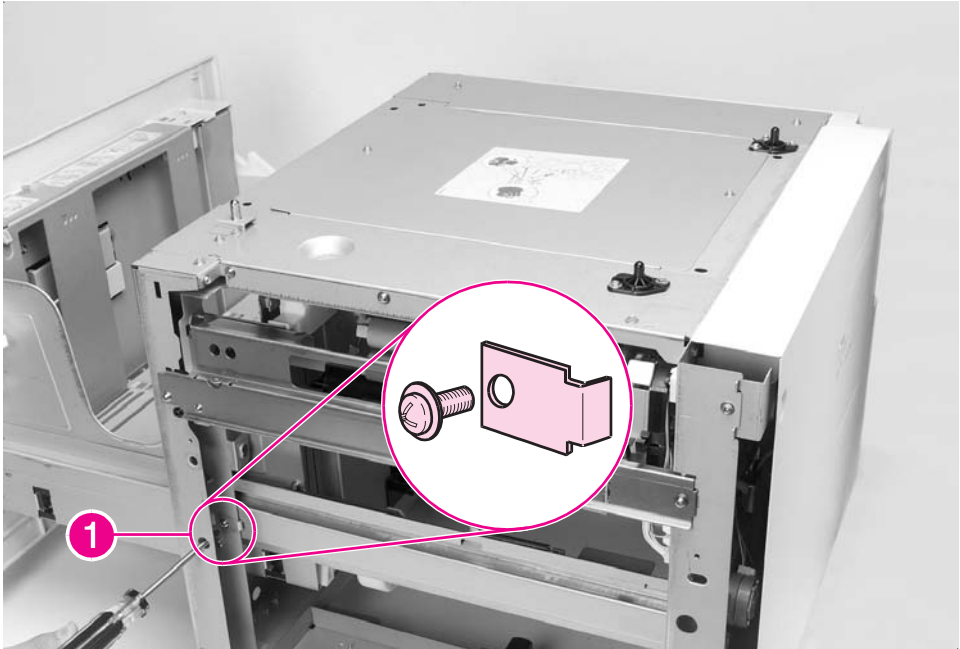

Figure 6-69 2000-sheet Input Tray Paper Tray
- 4 Remove the 2 screws and metal retaining tabs from the sides of the unit's chassis: 1 screw and retaining tab on each side of the chassis (figure 6-69, callout 1).
- 1 Make sure that the retaining tabs are tightly secured to the unit's chassis (figure 6-69, callout 1).